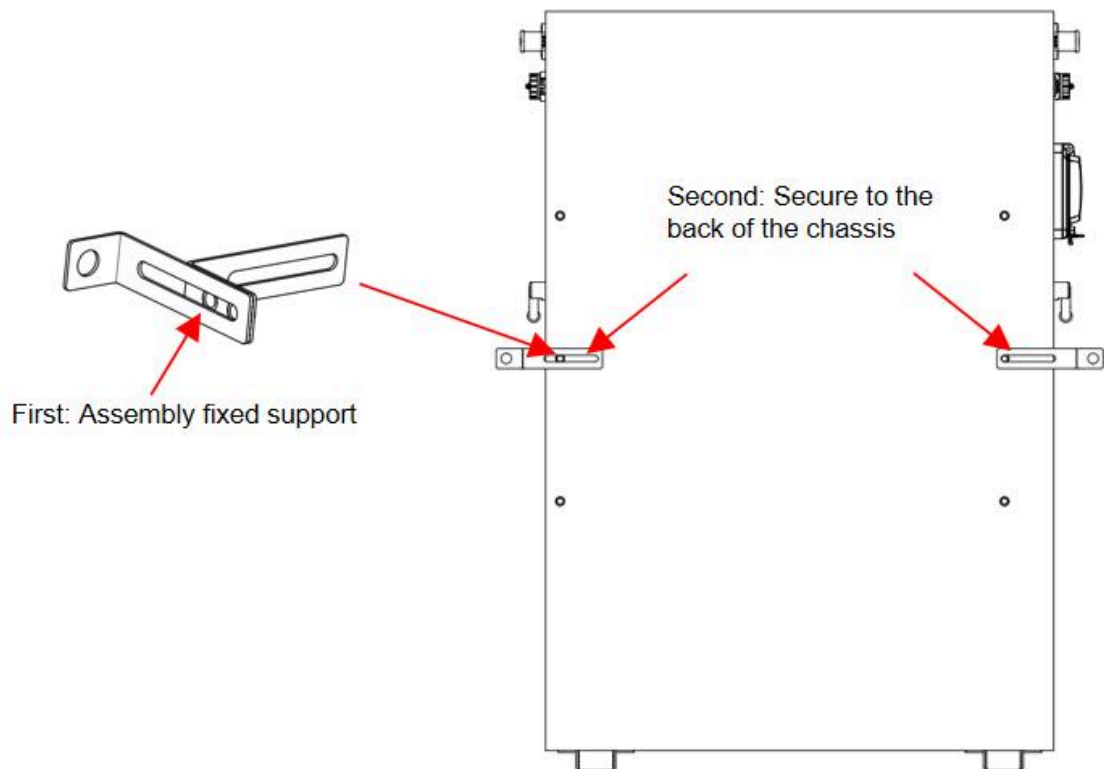

Figure 5-4
a) Use the 4 screws of M6\*12 to fix the left and right retaining ears to the back of the battery, The distance between the two supports ranges from 563 to 589mm, and can be moved about 26mm, as shown in Figure 5-4.